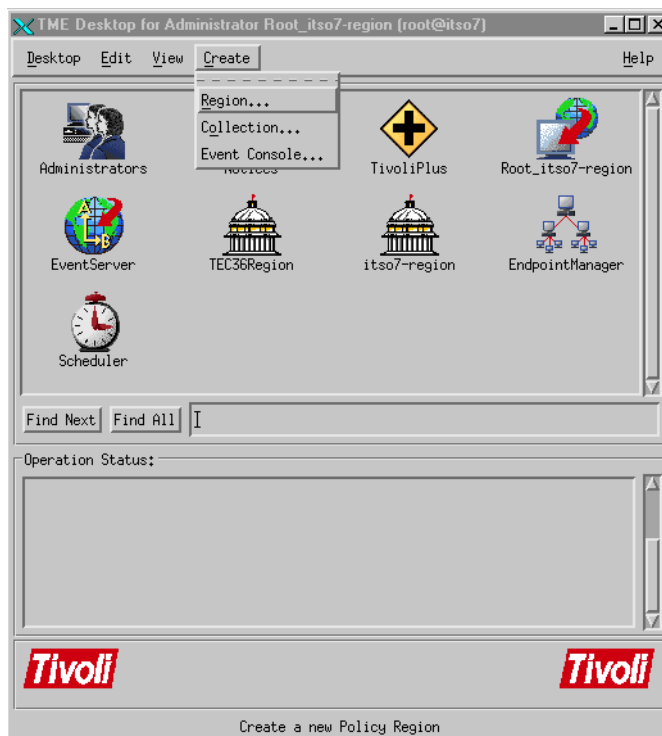

Figure 36. Create Policy Region menu
- Next, we need to create a Policy Region for TWS. Select **Create->Region** as shown in Figure 36.